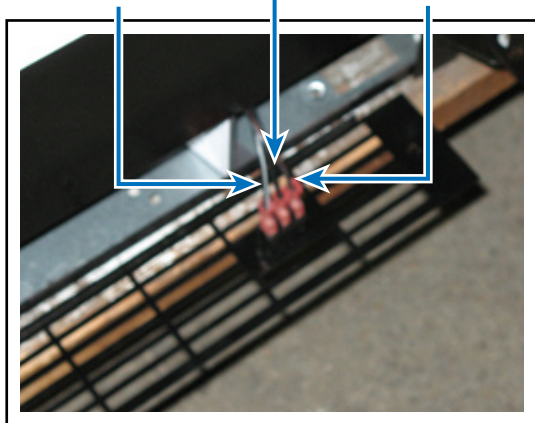

Figure 7
3. Remove grille by removing the two screws and disconnecting the three wires to rocker switch (see **Figure 7**).
16. Remove the screw that secures top of electrical bracket located in front of mechanical area (see **Figure 7**).
6. Take out the screw that secures the top of the electrical bracket located in the front of the mechanical area (see **Figure 7**).